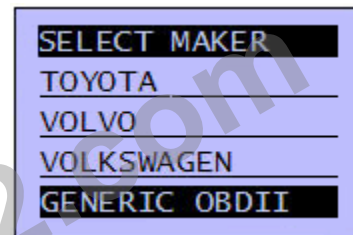

Figure 8
- Press  or  key to select the car maker according to the car made that need to be tested or if it is not in the menu then selects [Generic OBDII] (Figure 8).